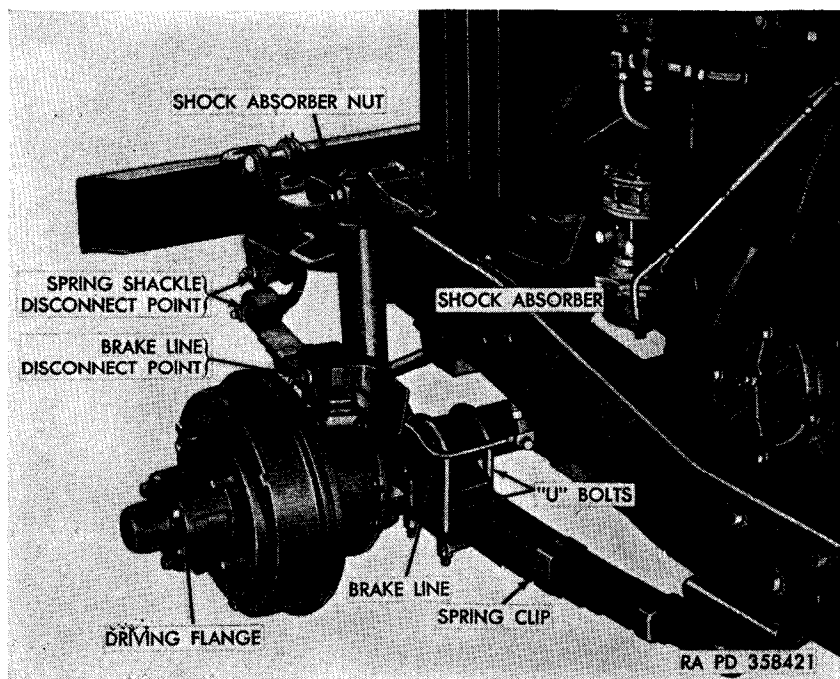
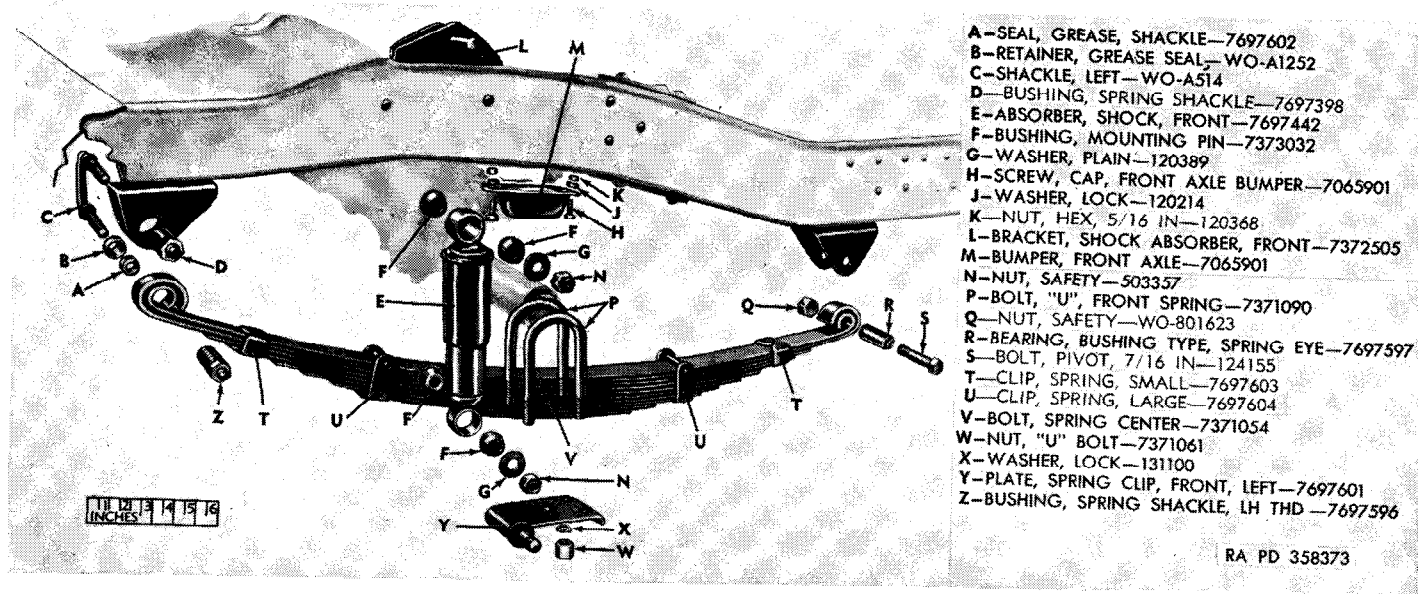
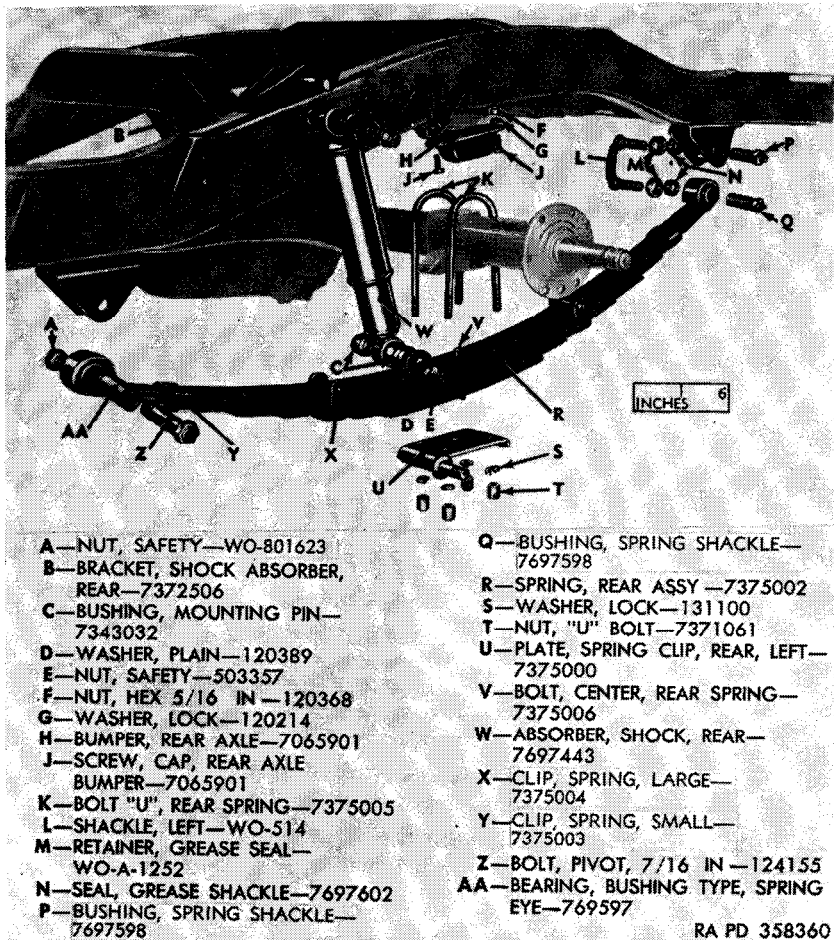

Figure 89. Front suspension—left side.
Figure 91. Left-front spring—exploded view.
Figure 92. Left-rear spring—exploded view.
All springs are semielliptic leaf type, with double-wrapped eyes. Each spring has four spring clips (figs. 89 and 90) which serve to hold the leaves in alinement and hold the leaves together to take road rebound. Threaded "U" bolt shackles (figs. 91 and 92) mount the front end of the front springs and the rear end of the rear springs. Left-handed thread shackles and bushings are used in the spring eye of the left front and right rear springs. These shackles have a small forged bar on the lower shank and the bushings have a groove cut around the hexagon head. A $\frac{7}{16}$ -inch pivot bolt (figs. 91 and 92) is used to mount the rear end of the front springs and the front end of the rear springs to the bracket on the frame. The shock absorbers are hydraulic cylinder, direct acting, two-way control units mounted in rubber bushings. These units are nonadjustable, nonrefillable, and are not designed for rebuild.
c. Spring Eye Bearing Replacement. Place the spring in a press, and with a suitable driver, press out the spring eye bushing type bearing (R, fig. 91; AA, fig. 92). Using the driver, press a new spring eye bearing into the spring.
d. Remove Spring Leaves. Remove the nut and bolt from the two large spring clips (U, fig. 91; X, fig. 92); bend the edges back on the two small spring clips (T, fig. 91; Y, fig. 92) and remove the spring clips. Install a C clamp next to the spring center bolt (V, fig. 91) to hold the tension of the spring leaves while removing spring center bolt. Remove the spring center bolt (V, fig. 91). Remove the C clamp and separate the spring leaves. Replace the damaged or broken spring leaves.
e. Assembly Spring. Place the spring leaves on the spring center bolt (V, fig. 91), starting with the shortest leaf. Pull the spring leaves together in a vise or a suitable press and install the nut on the spring center bolt. Install the four spring clips.